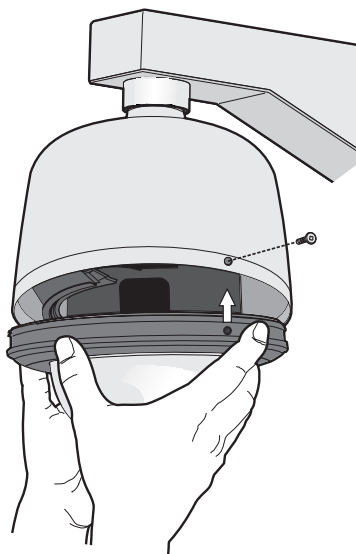

Figure 20. Installing the Stainless Steel Lower Dome
4. Push the lower dome into the back box, line up the mounting screw holes, and install the two mounting screws (refer to Figure 20).